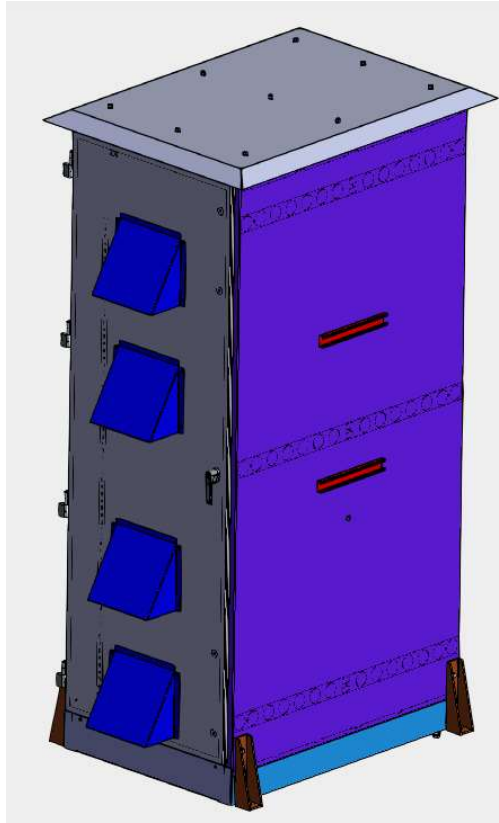

FIGURE 3: BOX CABINET ENCLOSURE MODEL, 45U, 19"
- The BOX cabinet will arrive on a pallet ( Figure 3 3)